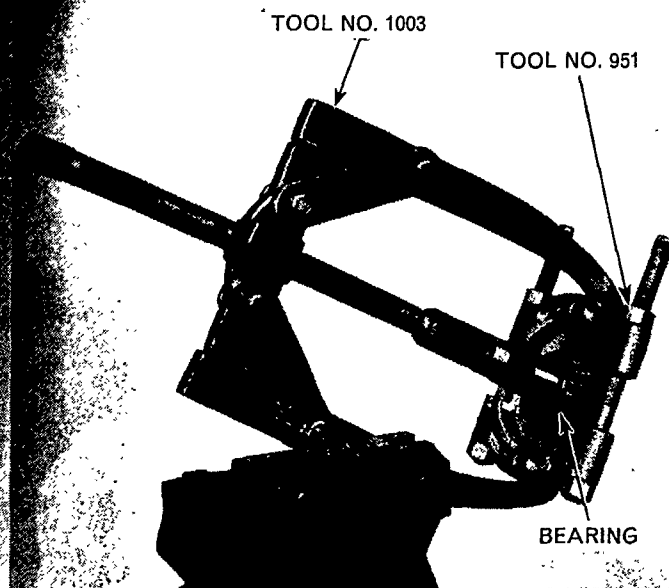
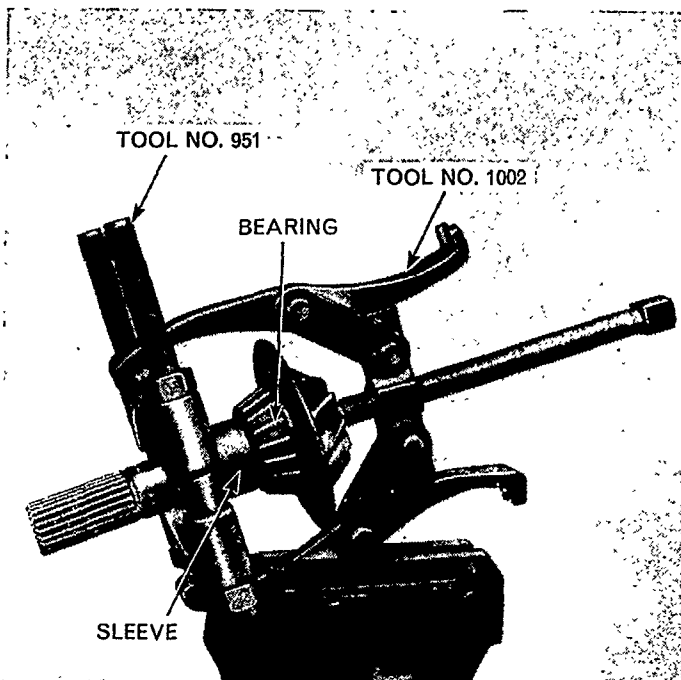

Figure 74
Figure 75
4. If it is necessary to install a new handbrake shaft inner cone and roller assembly remove the cone from the shaft using Tool Nos. 951 and 1003, Figure 74, and install a new cone and roller assembly using Tool Nos. 951, 1002 plus a suitable sleeve to enable the tool to press on the inner bearing race, Figure 75.